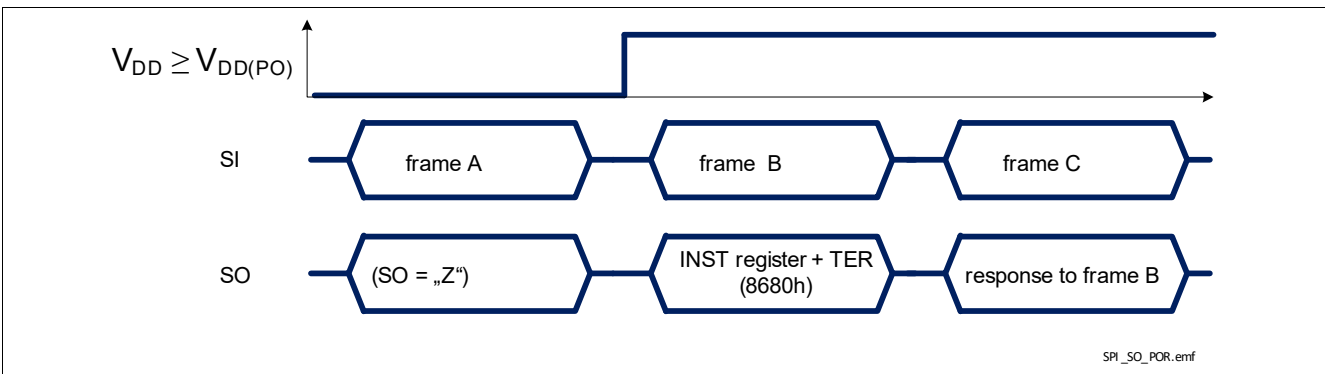

Figure 31 TLE75008-ESD response after coming out of Power-On reset at V_{DD}
- when TLE75008-ESD logic supply comes out of Power-On reset condition or after a Software Reset, as shown in **Figure 31**